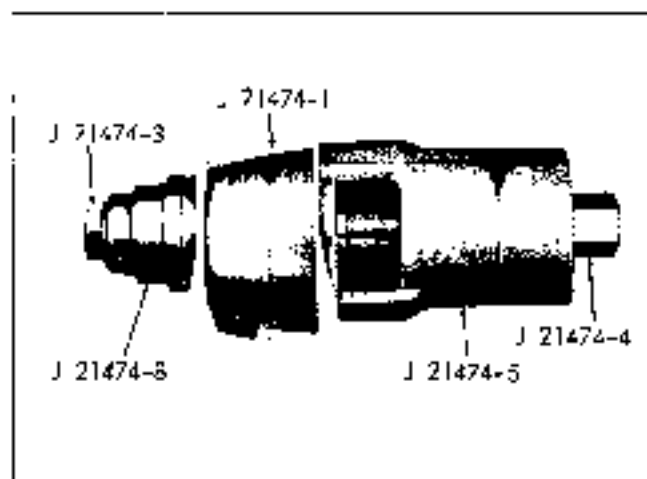

Fig. 4-7 Removing Rear Control Arm Bushings - Pontiac and Tempest
2. Arrange tools as shown in Fig. 4-7 and press bushing from control arm.
2. Support arm and remove bushing, using components of tool J 21474 as shown in Fig. 4-7.